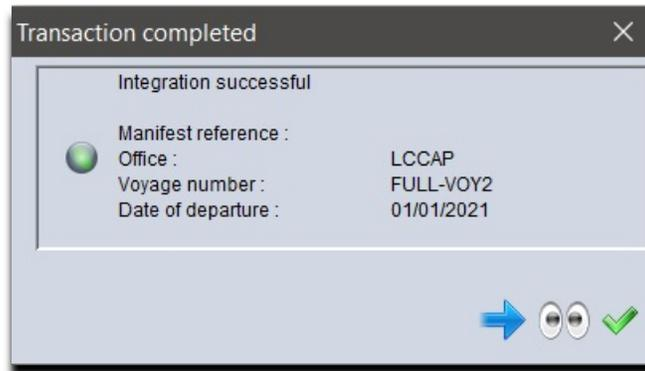

Figure 74: Successful integration message
Step 3. Click on the  icon to “save” and “store” the full manifest. The system will display a message indicating “Integration Successful”. It will also display the manifest reference information as seen in figure 74. The user may select the  icon to continue uploading other XML files or select  to close the message.